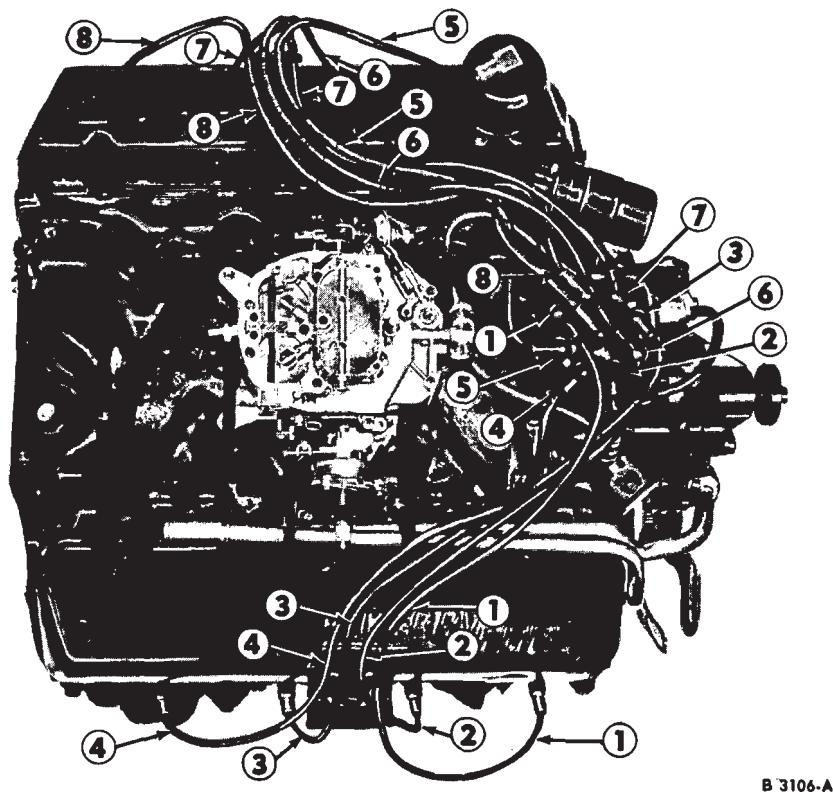

FIG. 28—Typical V-8 Ignition Wiring (Except 351 Engines)
The ignition wiring installation is shown in Fig. 28.
2. Remove the brackets from the old spark plug wire set and install them on the new set in the same relative position. Install the wires in the brackets on the valve rocker arm covers. Connect the wires to the proper spark plugs. Install the coil high tension lead. Be sure the No. 7 spark plug wire is positioned in the bracket as shown in Fig. 28. Notice that the wires are positioned in this bracket in a special order from front to rear (7-5-6-8). This applies to all V-8 engines except the 351 engine. The wires for the 351 V-8 should be positioned in the bracket from front to rear (5-7-8-6).